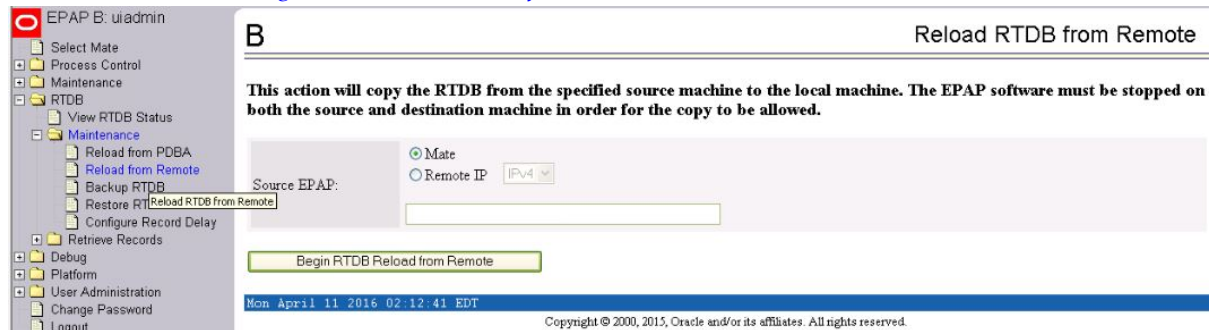

Figure 31: Reload RTDB from Mate EPAP
The screen shown in Figure 31: Reload RTDB from Mate EPAP shows this function.
7. Make sure that the Mate radio button is filled in, as shown in Figure 31: Reload RTDB from Mate EPAP and click the **Begin RTDB Reload from Remote** button.
8. Click the **Reload** button as shown in Figure 31: Reload RTDB from Mate EPAP.
The screen shown in *Figure 31: Reload RTDB from Mate EPAP* shows this function.
8. Make sure that the **Mate** radio button is filled in, as shown in *Figure 31: Reload RTDB from Mate EPAP* and click the **Begin RTDB Reload from Remote** button.